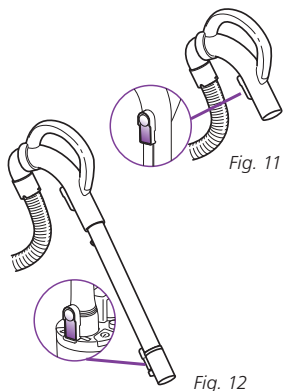

Fig. 12
- c To remove the handle with the extension wand, press the extension wand release button on the back of the vacuum. (Fig. 12)